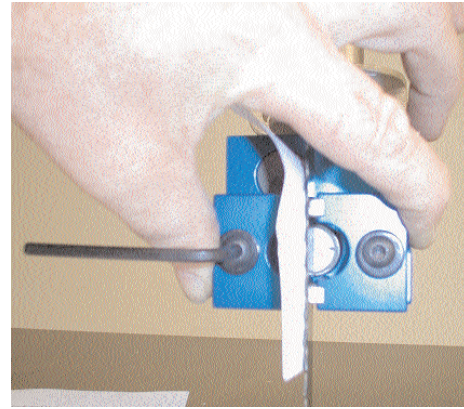

Fig. 11
13. We are now ready to adjust the guide to the blade. Rotating the blade by hand ensures that it is tracking consistently in the correct position. Loosen the side guide blocks. Loosen the clamp on the shaft and then move the guide assembly forward until the ceramic blocks are just behind the gullet of the band-saw blade. Place a dollar bill or a piece of paper of similar thickness between the guide block and the blade. Gently bring both side guide blocks towards the blade so that a slight pressure is exerted on the blade. Tighten the clamp screws and remove the paper. Rotate the blade by hand to ensure that the weld of the blade does not hit the ceramic blocks. If the weld does hit the ceramic, it may cause damage to the ceramic and/or the blade and must be returned to your blade supplier (see Fig. 11.), or dress the weld with a file or grinding block.